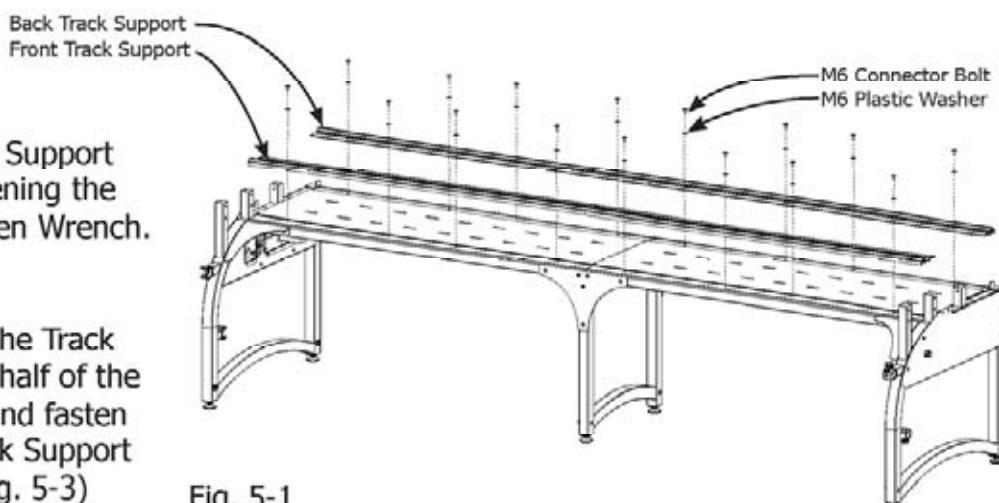

Fig. 5-1
**5-6:** Loosely fasten the Front Track Assembly and securely fasten the Rear Track Assembly onto the Table Assembly with Connector Bolts and M6 Plastic Washers. The Rear Track Assembly side should be flush with the back edge of the table. (Fig. 5-1)